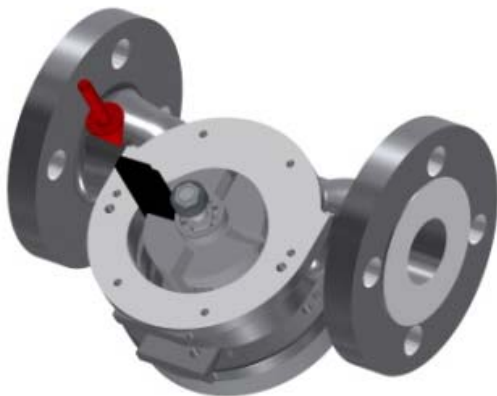
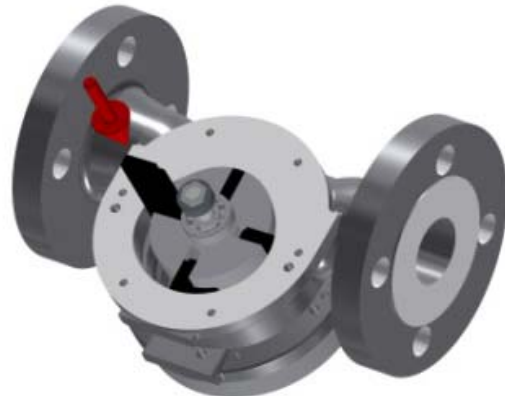

Figure 48 – Installing the first vanes
Figure 49 – Installing the last vanes
3. Rotate the rotor so that two opposite slots in the rotor are in line with the inlet and outlet of the flowmeter. See Figure 48.
4. Insert the four vanes one by one into the slots of the rotor, starting with the vane nearest to the inlet connection and continue with the opposite vane. Next, rotate the rotor $\frac{1}{4}$ turn and insert the other two vanes in the same order, as shown in Figure 48 and Figure 49.